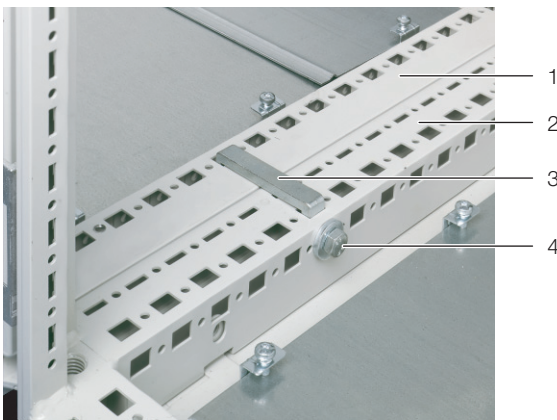

Fig. 15: Baying clamp
- In the front section, push out a baying clamp (fig. 15, item 3) from the server enclosure (fig. 15, item 2) through the corresponding notch in the side panel of the LCP DX (fig. 15, item 1).
- From the server enclosure, tighten the baying clamp (fig. 15, item 4), so that the frames of the server enclosure and LCP DX are firmly connected to one another.